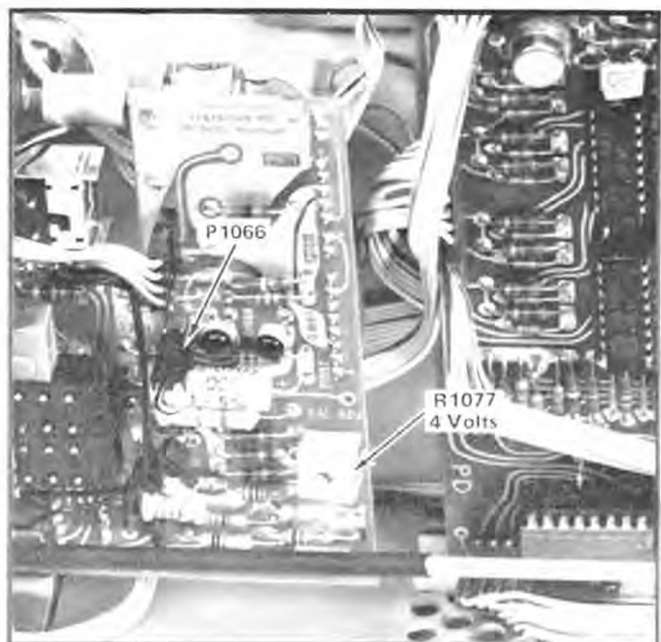

Fig. 3-8. Location of Calibrator adjustments (Calibrator board).
a. Change jumper P1066 (see Fig. 3-8) to the DC position.
d. ADJUST—4 Volts adjustment R1077 (see Fig. 3-8) for a meter reading of exactly 4 volts.
a. Change jumper P1066 (see Fig. 3-8) to the 1 kHz position.